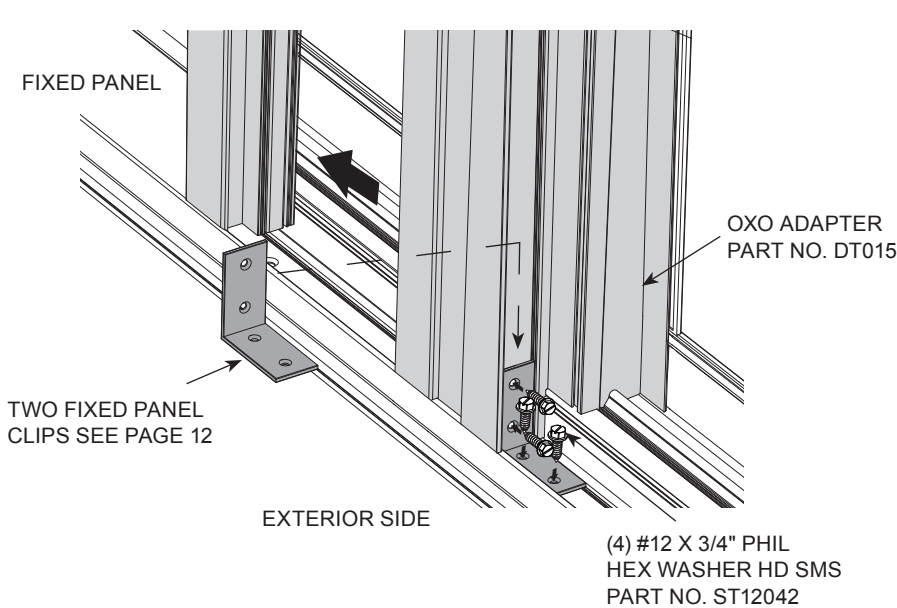

FIG. 50
5. Install clips at top and bottom of OXO adapter. (FIG. 50). Refer to FIG. 19 on page 10 for clip attachment method.